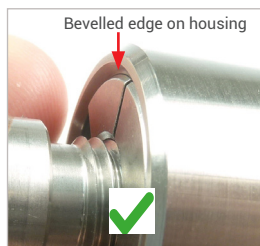

Figure 14
- ▶ Vent the pilot pressure again. The connector tightens itself to the test piece and creates a pressure-tight connection. The plane surface of the clamping jaws is at the same height as the chamfer of the housing (*Figure 14*).